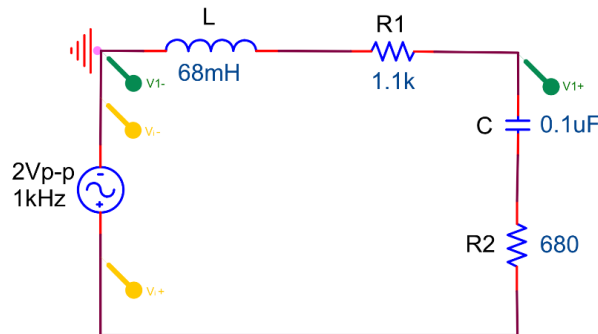

Figure 12.8
2. Construct Figure 12.8 and use the oscilloscope to measure the magnitude of the phasor V_1 and record the θ_2 .
- Construct Figure 12.8 and use the oscilloscope to measure the magnitude of the phasor V_1 and record the θ_2 .
5. Construct Figure 12.8 and use the oscilloscope to measure the magnitude of the phasor V_1 and record the θ_2 .